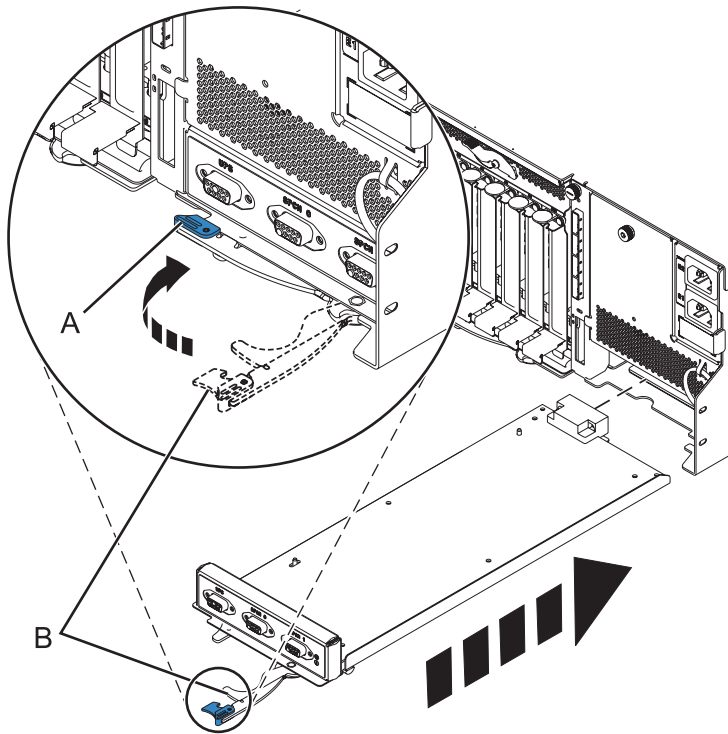

Figure 69. Replacing the enclosure management controller
- Carefully slide the enclosure management controller into the system and close the latch (A) as shown in Figure 69.